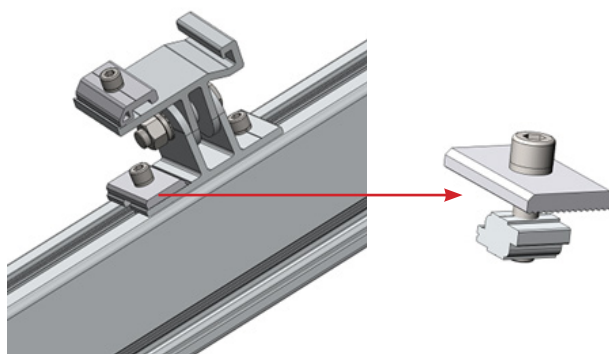

Fig. 20
5.2.2.2 Click the corrugated shim and Z Mould/bolt into the Tri-Groove Beams and move them into the opening slot hole of East/West Adjustable Bracket. After the bolt is at the end of slot hole, fasten the M8 bolts slightly as shown in Fig. 20.